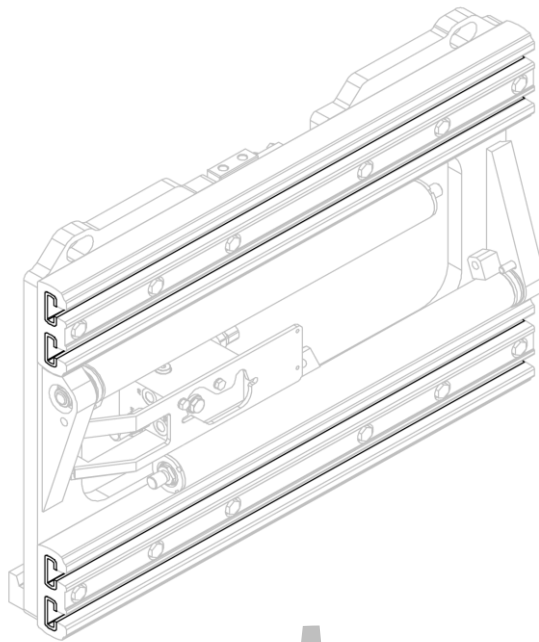
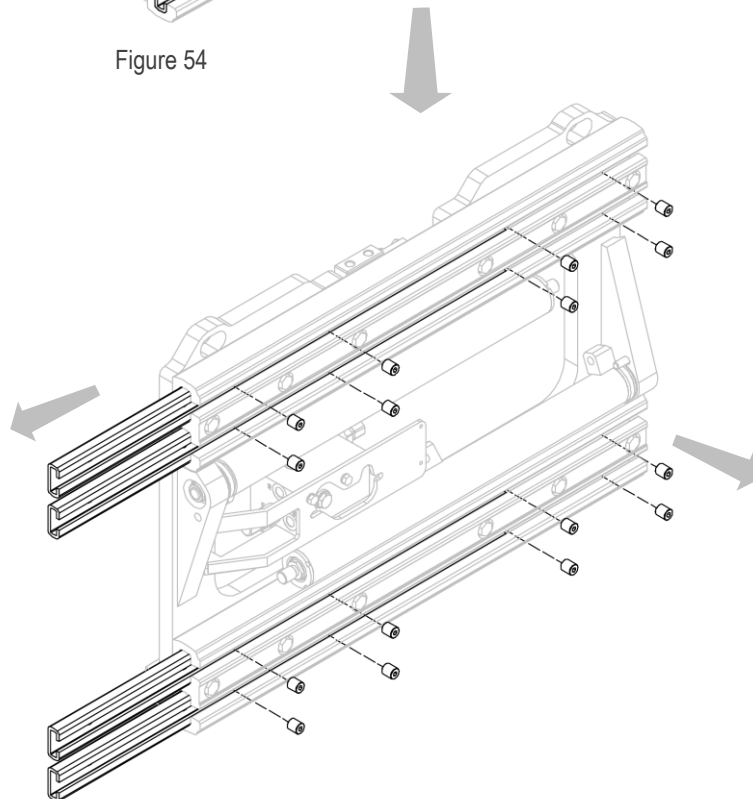

Figure 54
Figure 55
3. Remove the nylon bushes after unscrewing the corresponding grub screws (see *Figure 54* and *Figure 55*).